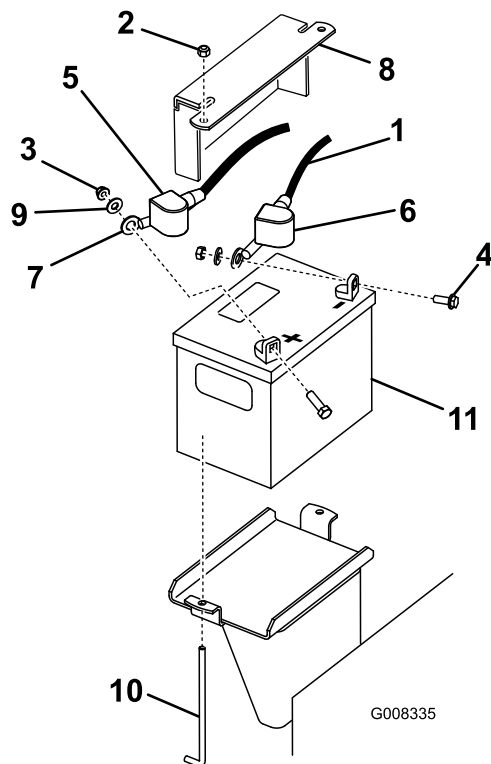

Figure 39
3. Lift the black rubber cover on the negative cable. Disconnect the negative battery cable from the negative (-) battery terminal (Figure 39).
- Slide the red terminal boot off the positive (red) battery terminal. Then remove the positive (red) battery cable (Figure 39).
- Remove the hold down plate, j-bolts, and locknuts securing the battery (Figure 39) and remove the battery.
- Place the battery onto the machine (Figure 39).
- First, install the positive (red) battery cable to positive (+) battery terminal with a nut, washer and bolt (Figure 39). Slide the rubber cover over the post.
- Then install the negative battery cable and ground wire to the negative (-) battery terminal with a nut, washer and bolt (Figure 39). Slide the rubber cover over the post.